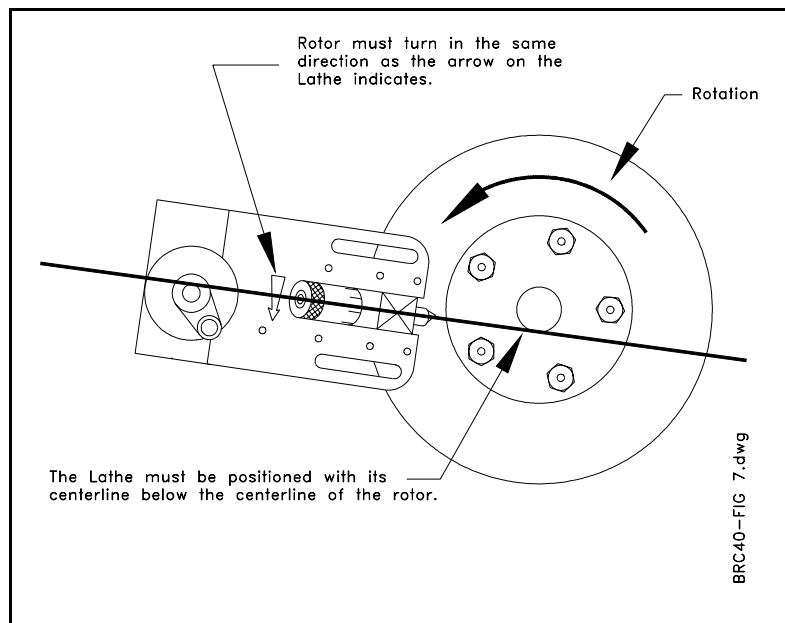

Figure 11 Direction of Rotor Rotation
- 7) Turn the Drive Motor Switch clockwise to number 1. The rotor should be turning in the direction shown in Figure 11.